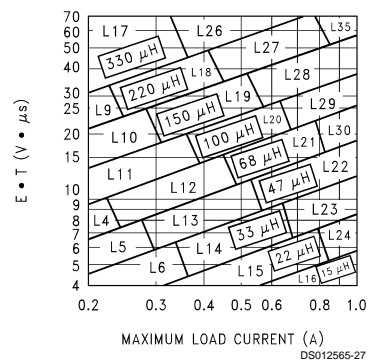

FIGURE 7. LM2595-ADJ
<p>2. Inductor Selection (L1)</p> <p>A. Calculate the inductor Volt • microsecond constant $E \cdot T$ ($V \cdot \mu s$), from the following formula:</p> $E \cdot T = (V_{IN} - V_{OUT} - V_{SAT}) \cdot \frac{V_{OUT} + V_D}{V_{IN} - V_{SAT} + V_D} \cdot \frac{1000}{150 \text{ kHz}} (V \cdot \mu s)$ <p>where V_{SAT} = internal switch saturation voltage = 1V and V_D = diode forward voltage drop = 0.5V</p> <p>B. Use the $E \cdot T$ value from the previous formula and match it with the $E \cdot T$ number on the vertical axis of the Inductor Value Selection Guide shown in Figure 7.</p> <p>C. on the horizontal axis, select the maximum load current.</p> <p>D. Identify the inductance region intersected by the $E \cdot T$ value and the Maximum Load Current value. Each region is identified by an inductance value and an inductor code (LXX).</p> <p>E. Select an appropriate inductor from the four manufacturer's part numbers listed in Figure 8.</p> <p>3. Output Capacitor Selection (C_{OUT})</p> <p>A. In the majority of applications, low ESR electrolytic or solid tantalum capacitors between 47 μF and 330 μF provide the best results. This capacitor should be located close to the IC using short capacitor leads and short copper traces. Do not use capacitors larger than 330 μF. For additional information, see section on output capacitors in application information section.</p> <p>B. To simplify the capacitor selection procedure, refer to the quick design table shown in Figure 3. This table contains different output voltages, and lists various output capacitors that will provide the best design solutions.</p> <p>C. The capacitor voltage rating should be at least 1.5 times greater than the output voltage, and often much higher voltage ratings are needed to satisfy the low ESR requirements needed for low output ripple voltage.</p> <p>4. Feedforward Capacitor (C_{FF}) (See Figure 1)</p> <p>For output voltages greater than approximately 10V, an additional capacitor is required. The compensation capacitor is typically between 50 pF and 10 nF, and is wired in parallel with the output voltage setting resistor, R_2. It provides additional stability for high output voltages, low input-output voltages, and/or very low ESR output capacitors, such as solid tantalum capacitors.</p> $C_{FF} = \frac{1}{31 \times 10^3 \times R_2}$ <p>This capacitor type can be ceramic, plastic, silver mica, etc. (Because of the unstable characteristics of ceramic capacitors made with Z5U material, they are not recommended.)</p>	<p>2. Inductor Selection (L1)</p> <p>A. Calculate the inductor Volt • microsecond constant ($E \cdot T$),</p> $E \cdot T = (28 - 20 - 1) \cdot \frac{20 + 0.5}{28 - 1 + 0.5} \cdot \frac{1000}{150} (V \cdot \mu s)$ $E \cdot T = (7) \cdot \frac{20.5}{27.5} \cdot 6.67 (V \cdot \mu s) = 34.8 (V \cdot \mu s)$ <p>B. $E \cdot T = 34.8 (V \cdot \mu s)$</p> <p>C. $I_{LOAD(max)} = 1A$</p> <p>D. From the inductor value selection guide shown in Figure 7, the inductance region intersected by the 35 ($V \cdot \mu s$) horizontal line and the 1A vertical line is 100 μH, and the inductor code is L29.</p> <p>E. From the table in Figure 8, locate line L29, and select an inductor part number from the list of manufacturers part numbers.</p> <p>3. Output Capacitor Selection (C_{OUT})</p> <p>A. See section on C_{OUT} in Application Information section.</p> <p>B. From the quick design table shown in Figure 3, locate the output voltage column. From that column, locate the output voltage closest to the output voltage in your application. In this example, select the 24V line. Under the output capacitor section, select a capacitor from the list of through hole electrolytic or surface mount tantalum types from four different capacitor manufacturers. It is recommended that both the manufacturers and the manufacturers series that are listed in the table be used.</p> <p>In this example, through hole aluminum electrolytic capacitors from several different manufacturers are available.</p> <p>82 μF, 35V Panasonic HFQ Series 82 μF, 35V Nichicon PL Series</p> <p>C. For a 20V output, a capacitor rating of at least 30V or more is needed. In this example, either a 35V or 50V capacitor would work. A 35V rating was chosen, although a 50V rating could also be used if a lower output ripple voltage is needed.</p> <p>Other manufacturers or other types of capacitors may also be used, provided the capacitor specifications (especially the 100 kHz ESR) closely match the types listed in the table. Refer to the capacitor manufacturers data sheet for this information.</p> <p>4. Feedforward Capacitor (C_{FF})</p> <p>The table shown in Figure 3 contains feed forward capacitor values for various output voltages. In this example, a 1 nF capacitor is needed.</p>